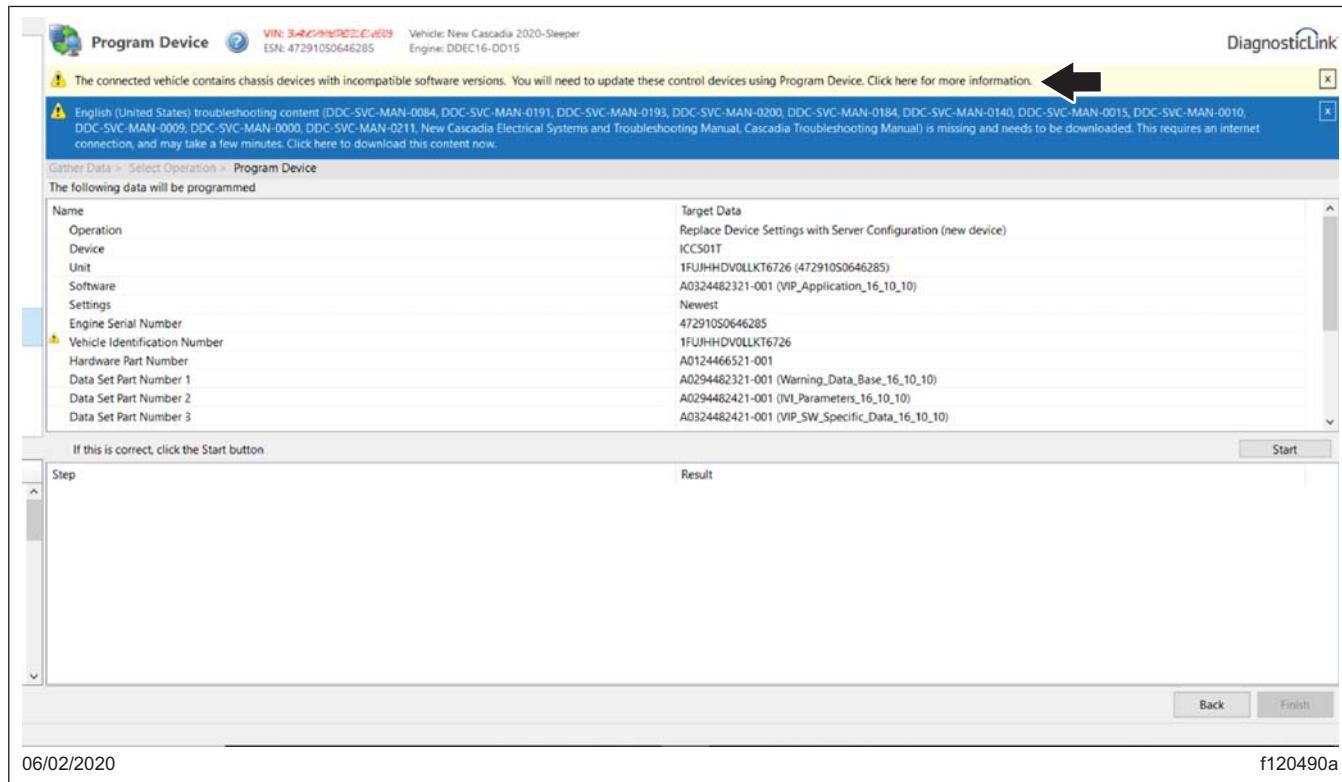

Fig. 21, Clicking on the Banner Message
- Click on the banner message. See **Fig. 21**.